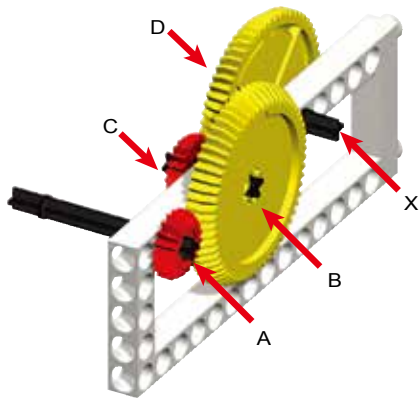

Fig. 14
1. Use two 20T gears, two 60T gears, two small axles, and one medium axle to assemble the structure in Fig. 14.